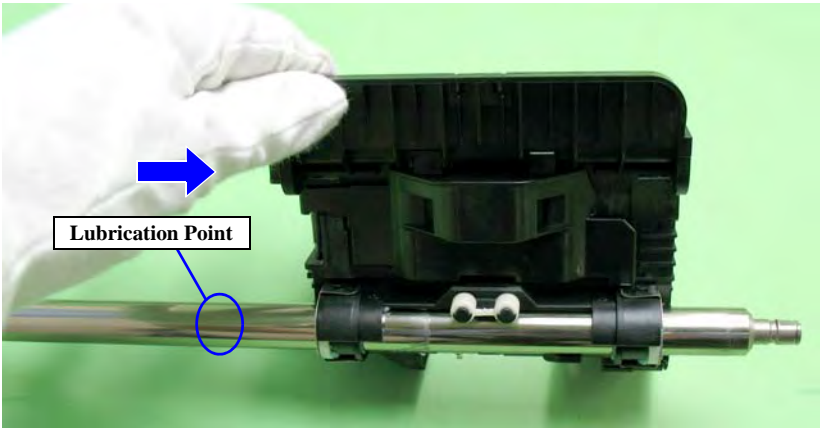

Figure 6-16. Lubricating the Carriage Shaft (3)
4. Move the Carriage Unit to the right end of the Carriage Shaft viewing the Unit from the rear, and lubricate grease with the syringe at the point shown in Figure 6-16.